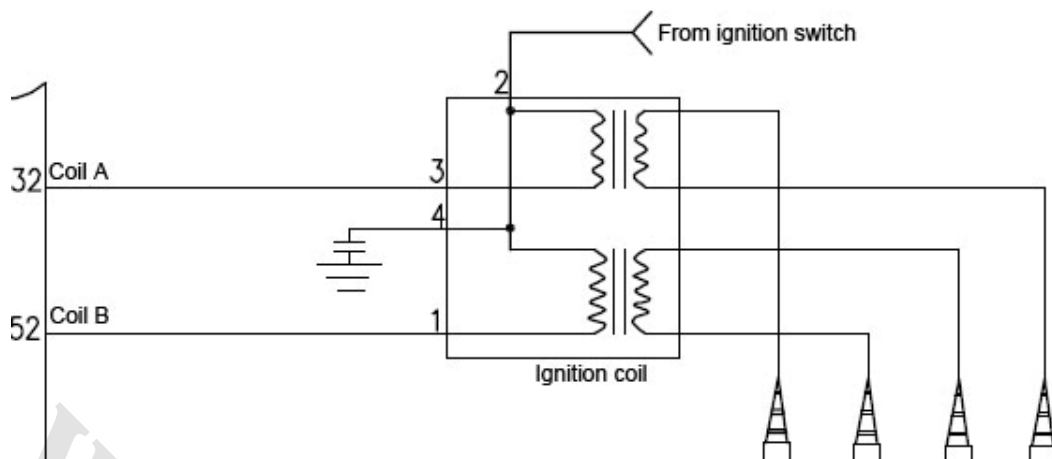

Fig. 1-18
**(1) Function:** To convert primary winding low voltage electricity into secondary winding high voltage electricity, to produce spark to burn the mixture of fuel and air in the cylinder.
**(2) Separate ignition (grouped ignition):** Based on the signal from the crankshaft/camshaft position sensor, the ECU controls the grounding of the three ignition coils respectively for the ignition of the engine.
**(3) Structure and principle:** Consists of primary winding, secondary winding, iron core, housing, etc. When the battery is connected with the primary winding, the primary winding will be charged. When the circuit of the primary winding is cut down by the ECU, the charge will stop. Meanwhile, the high voltage electricity will be induced in the secondary winding.
**(4) Wiring diagram of the parts (Fig. 1-18)**